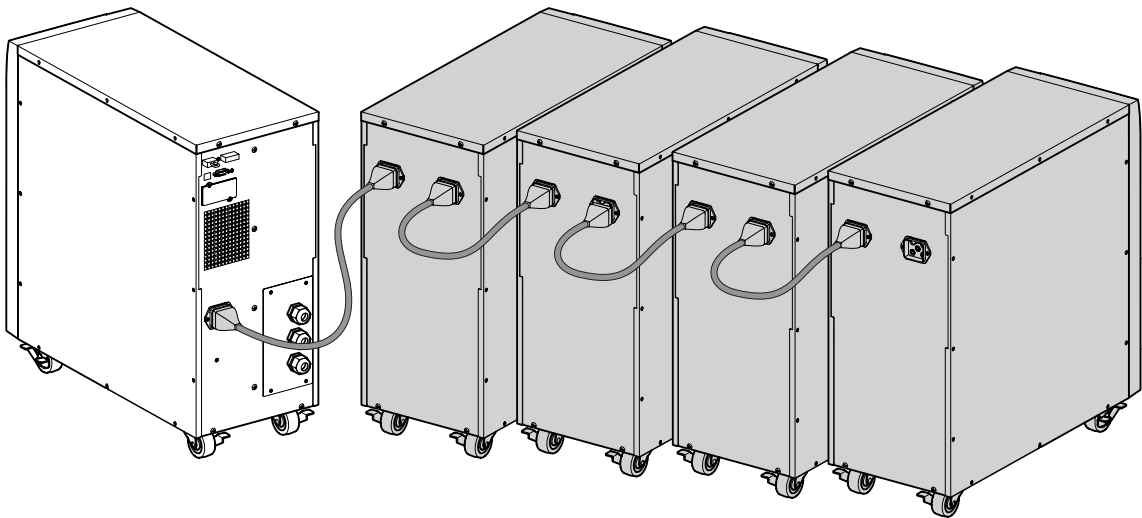

Figure 7. Connecting the EBMs.
- 1. Plug the EBM cable(s) into the battery connector(s) as shown in *figure 7*. Up to four EBMs may be connected to the UPS.